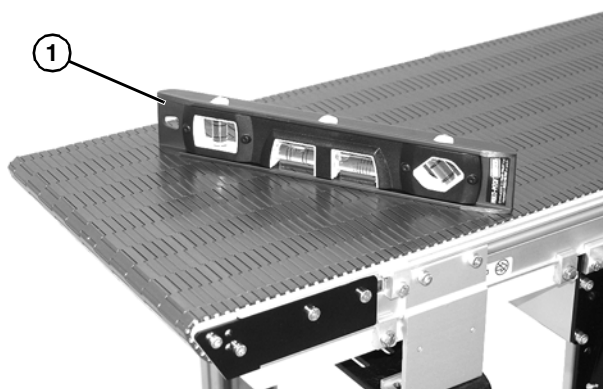

Figure 4
*Conveyor **MUST** be mounted straight, flat and level within confines of conveyor. Use a level (Figure 4, item 1) for setup.*